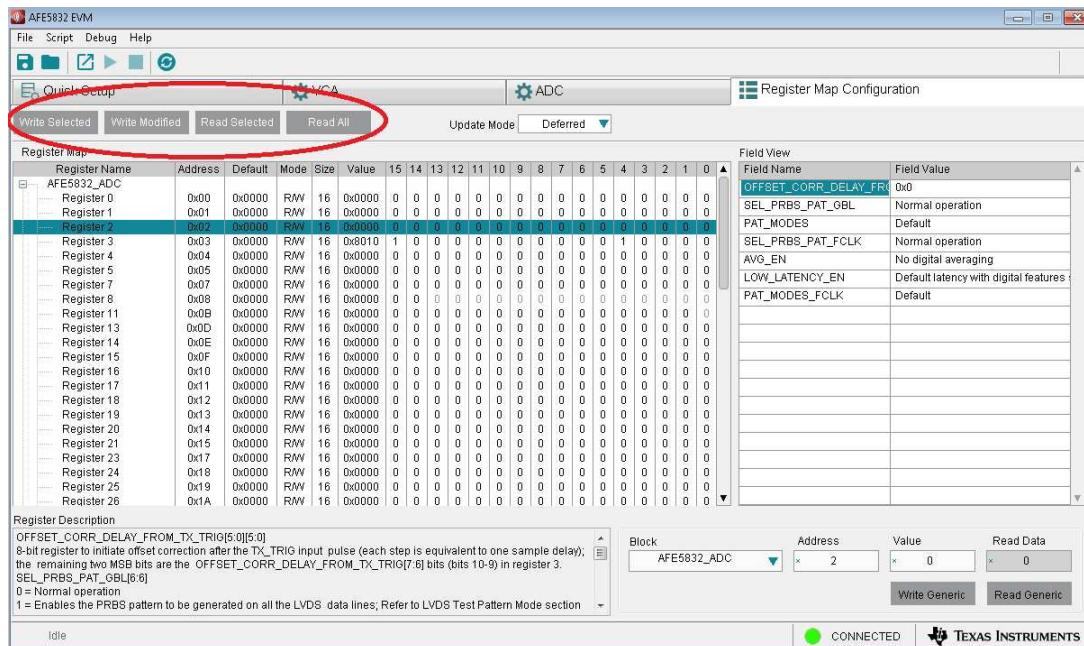

Figure 57. AFE5832: Register Map Configuration: Deferred Update Mode
There are two options to change the *Update Mode* on the GUI as shown in Figure 57: (a) Immediate and (b) Deferred.
- Within the *Deferred* update mode, there exist options in the top left-hand corner of the GUI for deciding how the changes should be implemented (shown in Figure 57): (a) *Read Selected* data, (b) *Write Selected* data, and (c) *Write Modified* data, or (d) *Read All* data.
1. *Read Selected*: Clicking this option in the top left-hand corner displays the value contained in the register in the *Read Data* field in the lower right-hand corner of the GUI. In the same area of the GUI, the *Address* field will display the address of the selected register, and the *Value* field will display the value contained in that register as shown in Figure 57.